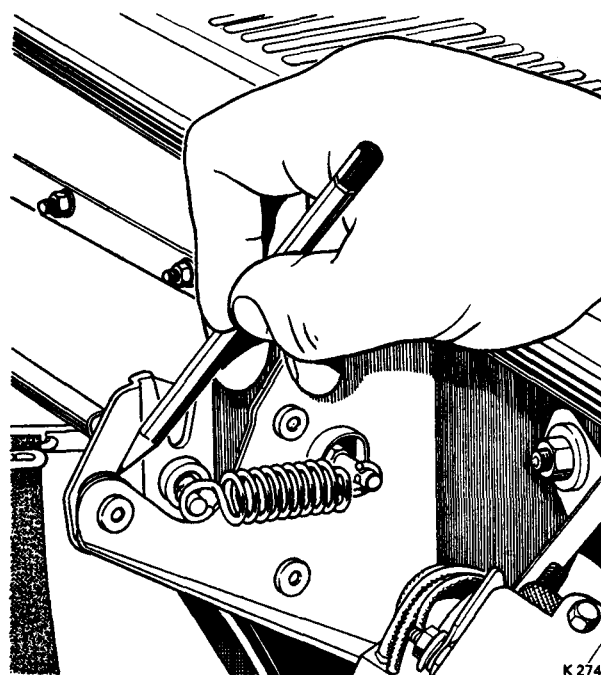

FIG. C2 SCRIBING A LINE ON THE BONNET CATCH MECHANISM TO FACILITATE ASSEMBLY
5. Scribe the profile of the bonnet catch mounting brackets onto their adjacent cadmium plated catch parts (see Fig. C2).